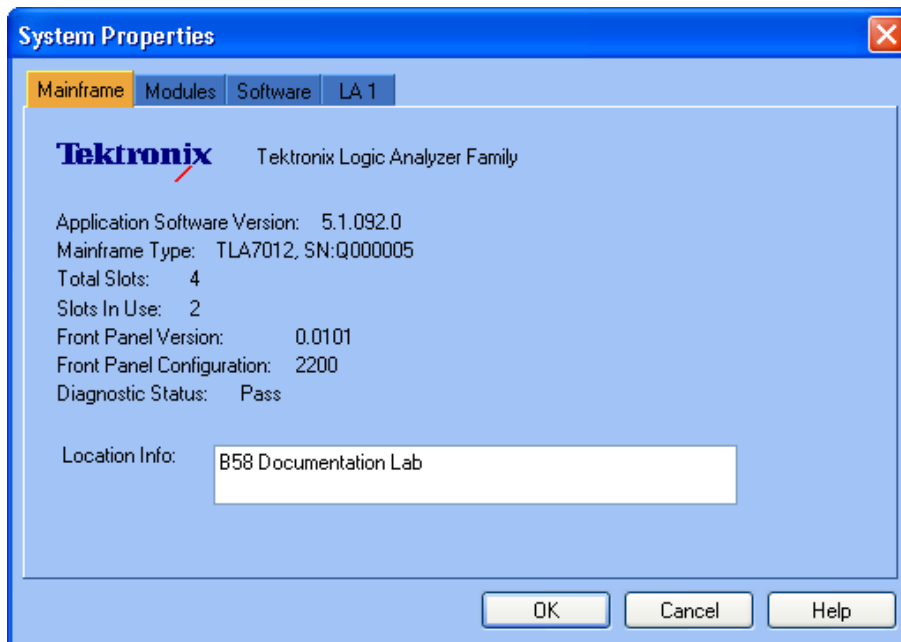

Figure 34: TLA System Properties dialog box
2. From the System menu, select **System Properties**. The System Properties dialog box appears. (See Figure 34.)